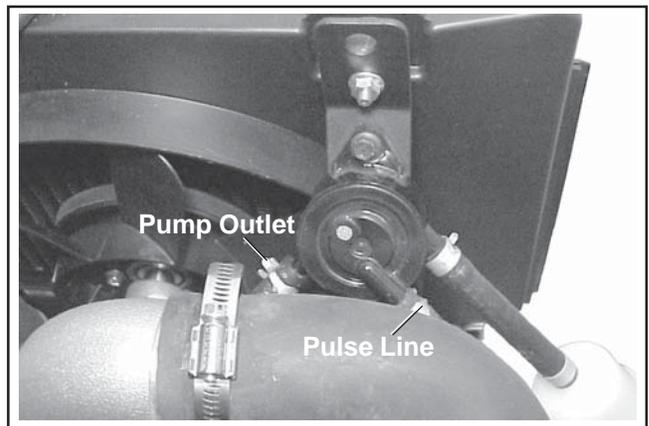

Figure 9-9. Fuel Line and Pump Pulse Line.
2. If a "pulse" style fuel pump is used, disconnect the fuel line from the pump outlet, and disconnect the pulse line from the fuel pump fitting. See Figure 9-9.